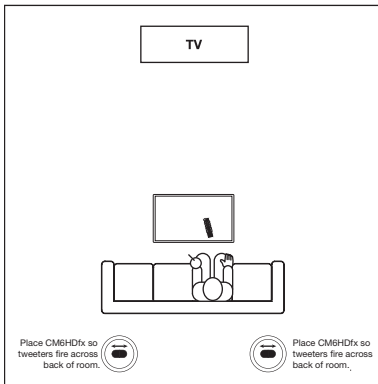
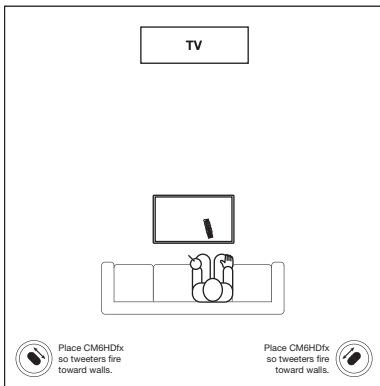

Figure 2. CM6HDfx loudspeakers placed near a back wall of a home theater room.
Figure 3. CM6HDfx loudspeakers placed near back corner walls of a home theater room.
- *Place the surround speakers near a hard reflecting surface, as shown in **Figure 2**. The reflections will help one pair of speakers to sound like several. If possible, try placing them near a corner (so that the adjoining walls will act as a powerful reflector) to create even more reflections, as shown in **Figures 3 and 4**.*